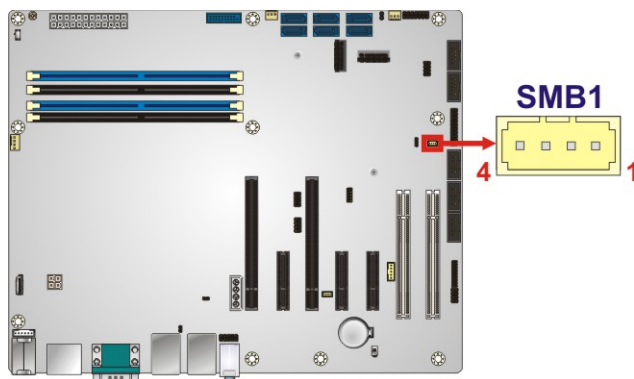

Figure 3-27: SMBus Connector Location
- CN Location:** See Figure 3-27